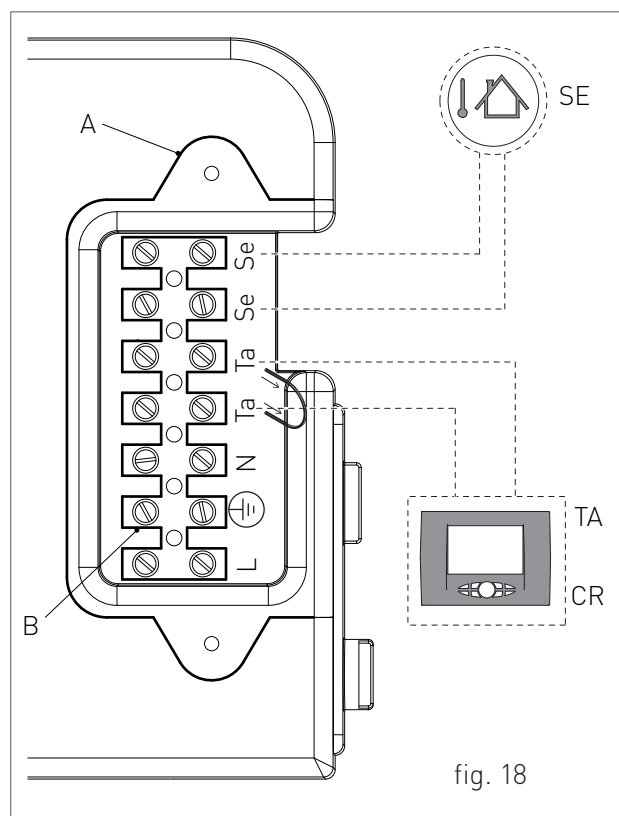

fig. 18
- › After removing the plate, connect the electrical cables to terminal "B" (see fig. 18):